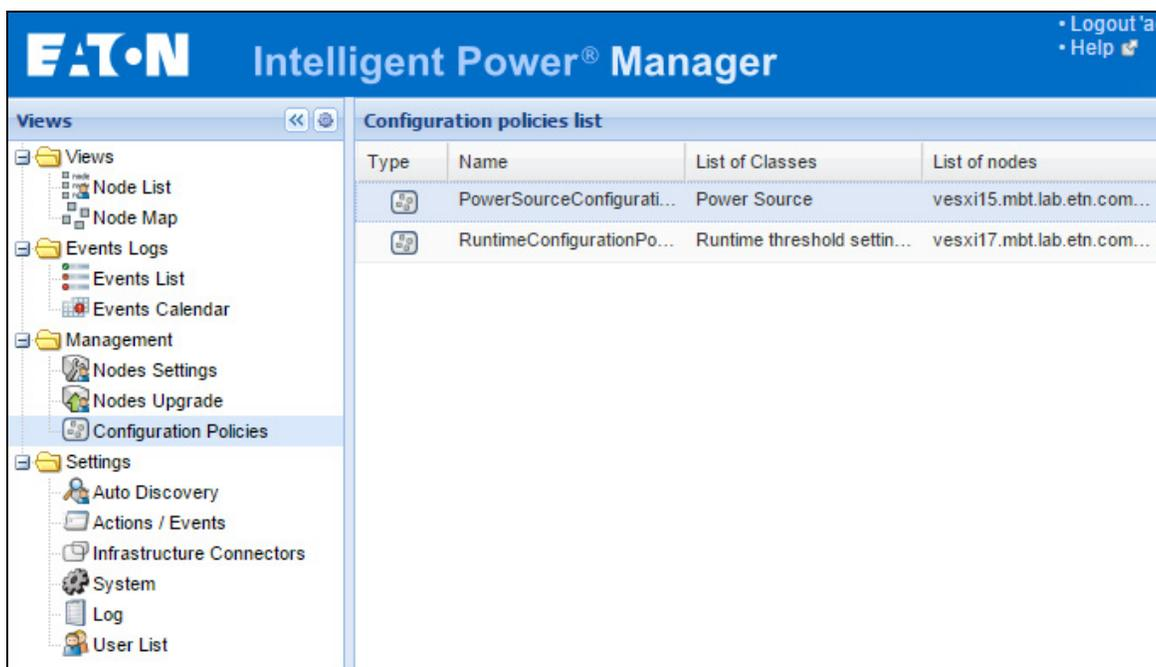

Figure 186. Configuration Policies List
7. Copy the configuration policy and modify the Nodes List and the configuration policy settings to match your environment constraints (see Figure 186).